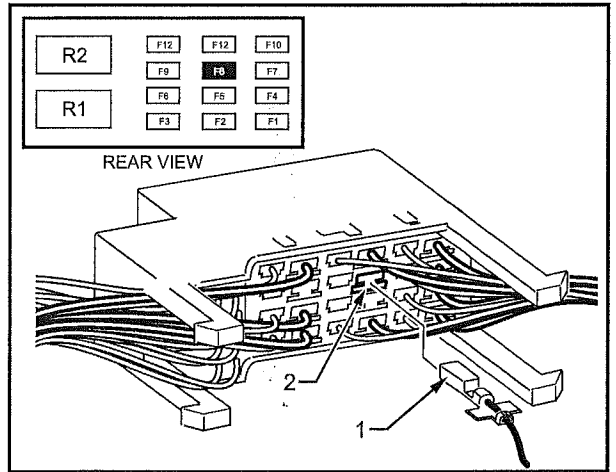

FIGURE 7
- 9. Insert the fuse terminal (1) on the power harness into the vacant position at fuse position F8 (2). Refer to Figure 7.